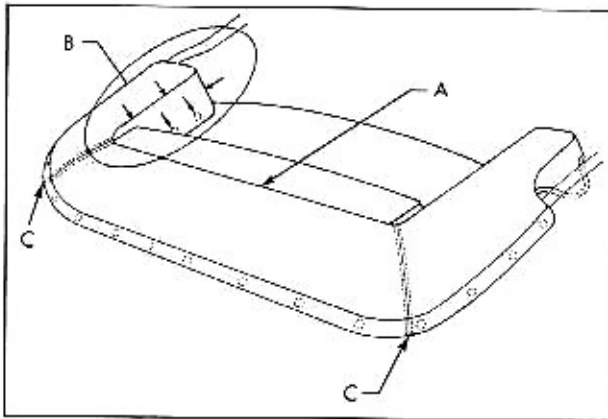

Fig. 3-11 Top Boot Position over Linkage
2. Slide front edge of folding top dust boot into seat back retainer indicated at "A" in Fig. 3-11. Make sure that boot is centered on retainer.
3. Carefully position top boot over linkage, making certain that the entire boot is properly positioned as shown in Fig. 3-11.
9. Snap installed fasteners in place and carefully pull rear edge of dust boot at seam locations, indicated at "C" in Fig. 3-11, to obtain a good fit. Mark location of the first stud inboard of seam "C"